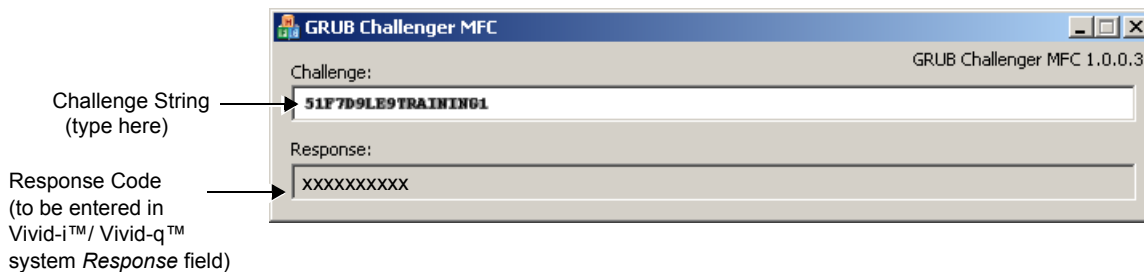

Figure 7-138 Grub Challenger MFC
- 3.) From your PC, open Grub Challenger MFC - see Figure 7-138.
A Response code is displayed below the Challenge string in the Grub Challenger screen - see Figure 7-138.